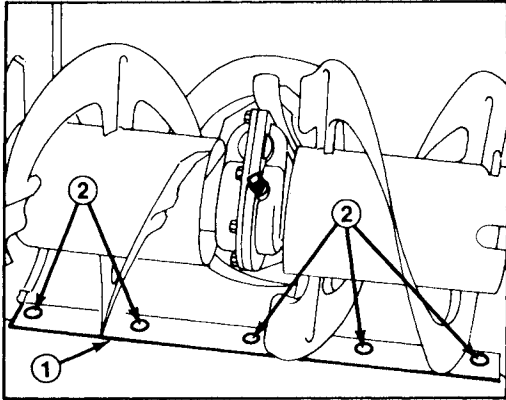

Figure 22
2. Adjust both skids so there is 1/8 of an inch (3 mm) between bottom of auger and level surface. When skids are adjusted correctly, tighten flange nuts. Next, check scraper blade that is mounted at bottom of auger housing (Fig. 22). To adjust scraper, loosen five mounting screws, level scraper, and retighten screws. Scraper must be parallel with level surface.